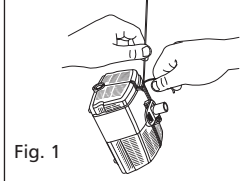

Fig. 1
- Do not use the supply cable to lift the pump, as this may cause damage. We recommend fitting a lifting cord to the handle eye on the top of the strainer cage when the pump is installed in deep water. See Fig 1.